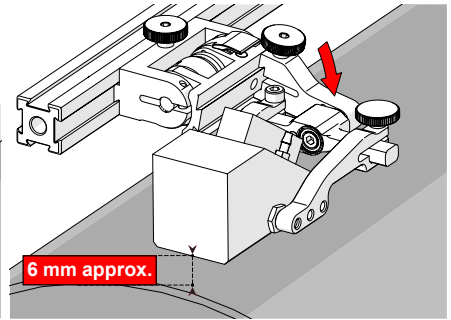

Fig. 84 - Lower to scanning surface
2. Push the probe holder yoke down toward the inspection surface until the wedge is approximately 6 mm ($\frac{1}{4}$ in) above the inspection surface (Fig. 84).